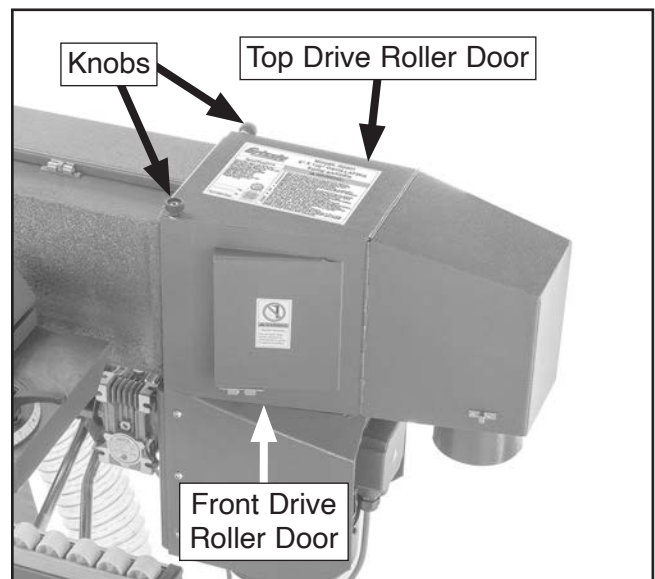

Figure 19. Location of drive roller doors and securing knobs.
5. Loosen (2) knobs shown in **Figure 19**, then open drive roller doors.